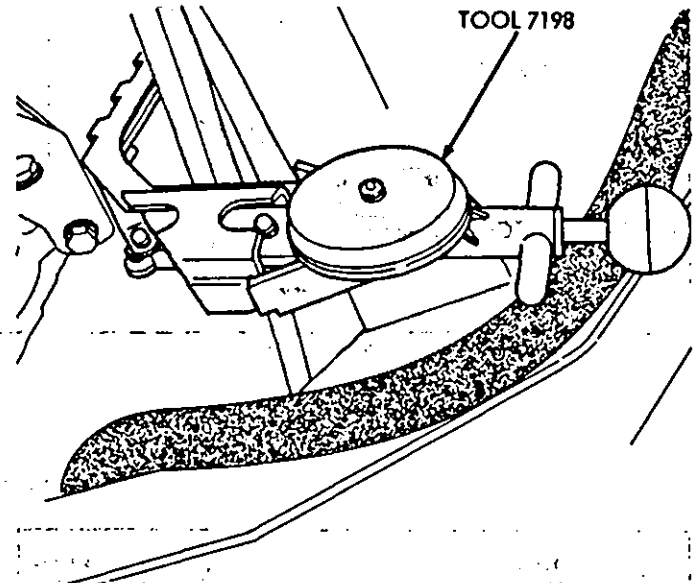

Fig. 7—Checking Belt Tension—3.0L Engine
(6) The belt tension gauge must be installed in the middle of the span of belt that is used to check belt tension (Fig. 7).